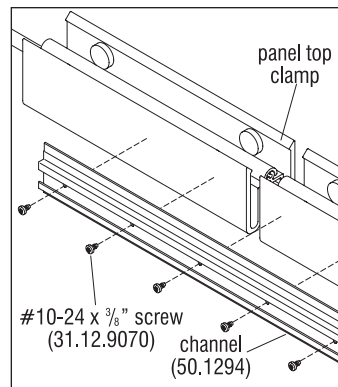

Figure 3 - Channel to Panel Clamp Detail
10. To mount the sliding door track (50.1900), if not previously completed, start by installing the additional top clamps (study page 44) to the top of the adjacent panel(s) which will receive the channel and door track, then re-install the panel(s). Identify and locate the channel (50.1294) which will install to the additional panel top clamps on the adjacent panel (Figures 3 & 4).